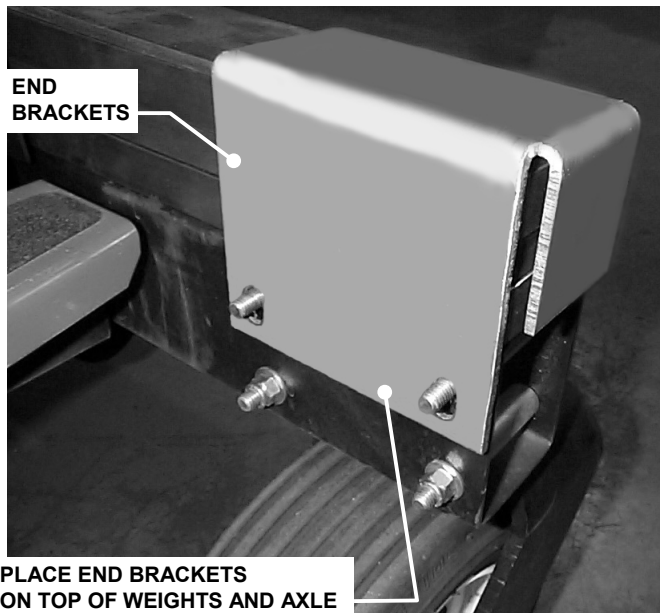

FIGURE 1.5A
B. Place end brackets on top of weights and front axle. See Figure 1.5A.